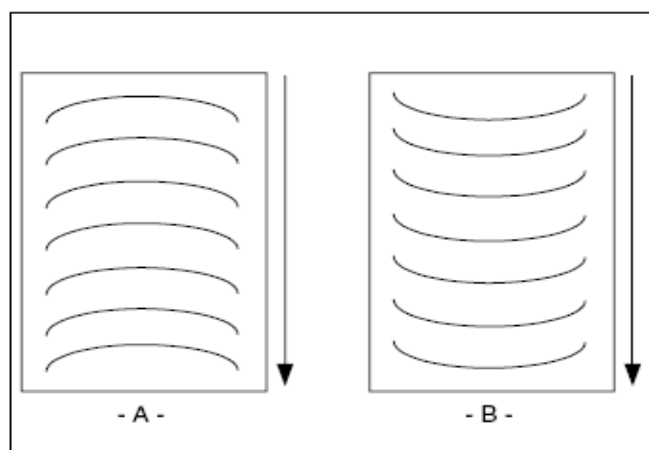

Fig. 43
1. "D" waves in the image (Figure 43 A).
2. "D" waves in the laminate (Figure 43 B).